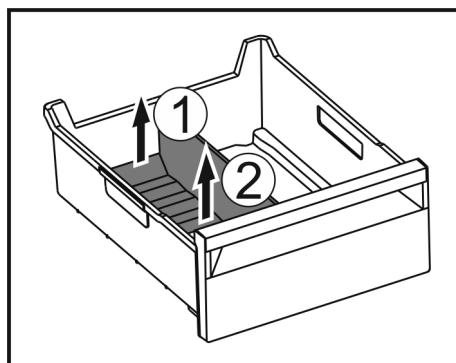

Fig. 161
- Lift the rear part of the ice compartment divider. Fig. 161 (1)
- Remove the ice compartment divider upwards. Fig. 161 (2)